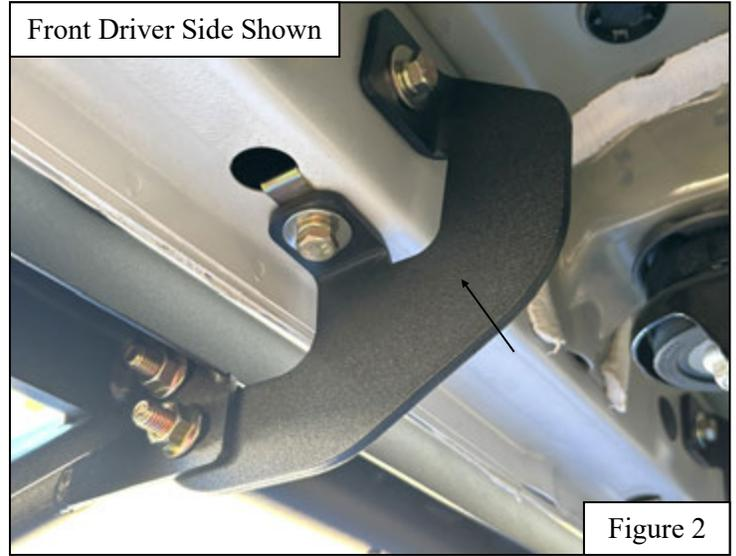

Figure 2
3. Loosely install (1) Mounting Bracket A (**item 3**) using the M8 hardware (**items 7-10**). See **Figure 2**. *Note: If threaded holes are not on the vehicles' rocker panel, remove the rubber plugs at each mounting location and insert M8 nut clips.*